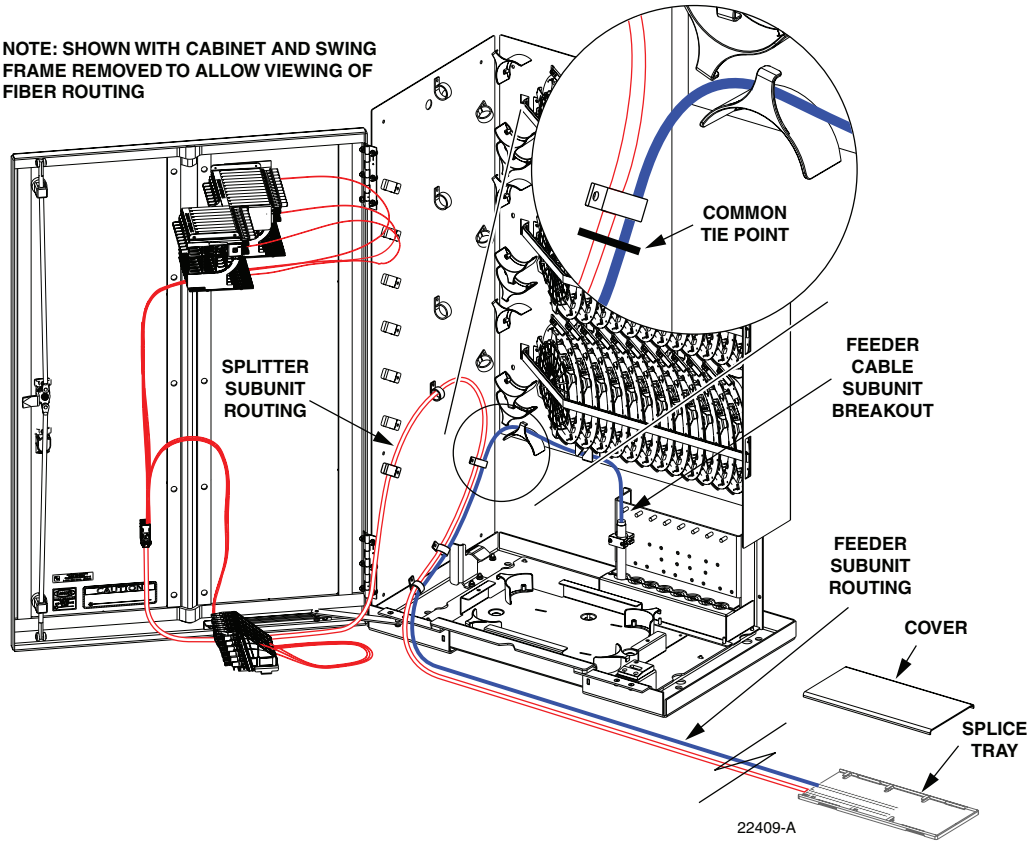

Figure 24. Feeder Fiber Routing To Splice Tray
4. Beginning at the feeder cable subunit breakout point shown in Figure 24, route the feeder cable fibers to the intersect point with the splitter fibers.